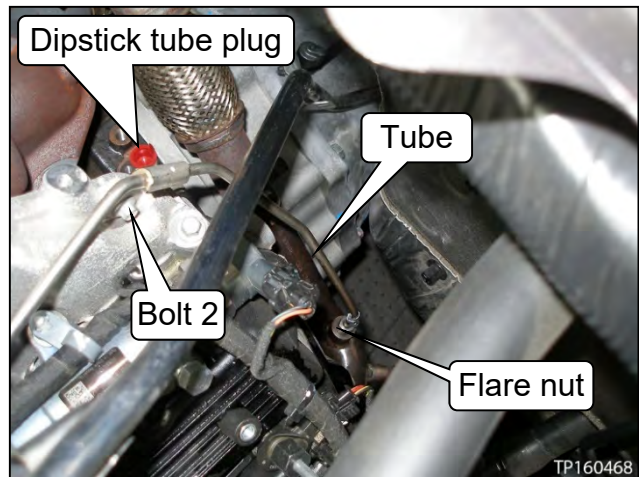
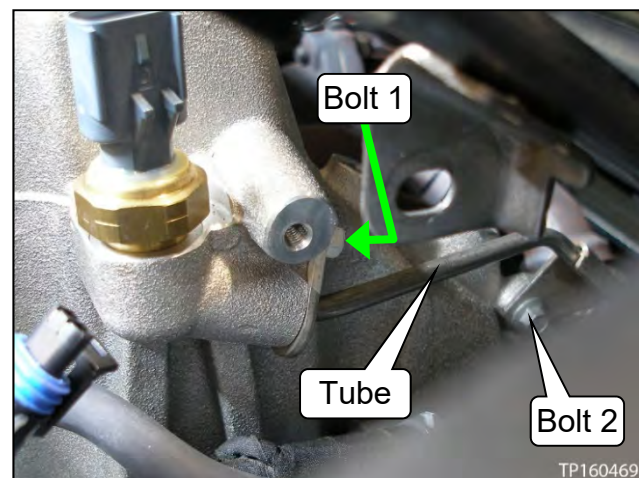

Figure 31
Figure 32
19. Remove the exhaust pressure sensor tube (see Figure 31 and Figure 32).